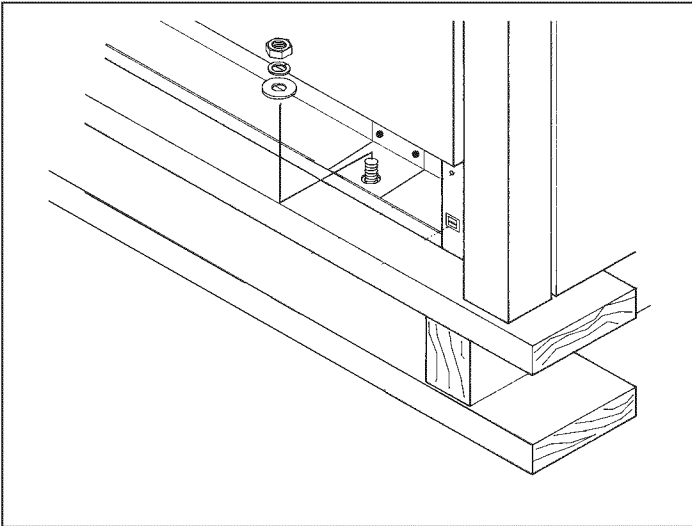
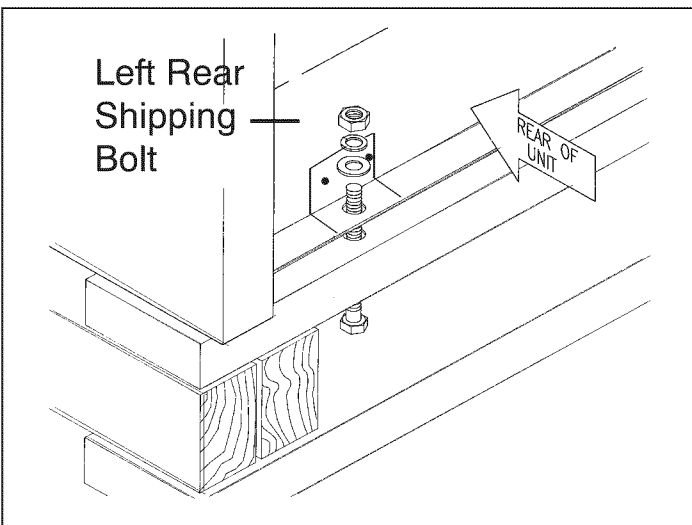

Figure 4: Removal of Two Front Shipping Bolts
Figure 5: Removal of Two Rear Shipping Bolts
- Remove the outer carton and packing material from the shipping pallet. The dual fuel ranges are held to the pallet by four (4) bolts (see Figure 4 and Figure 5). The two front pallet bolts are accessible only after removing the Kick Panel. The Kick Panel is removed by two screws below the lower corners of the oven cavity. After removing the bolts, the range must be lifted and removed from the pallet.